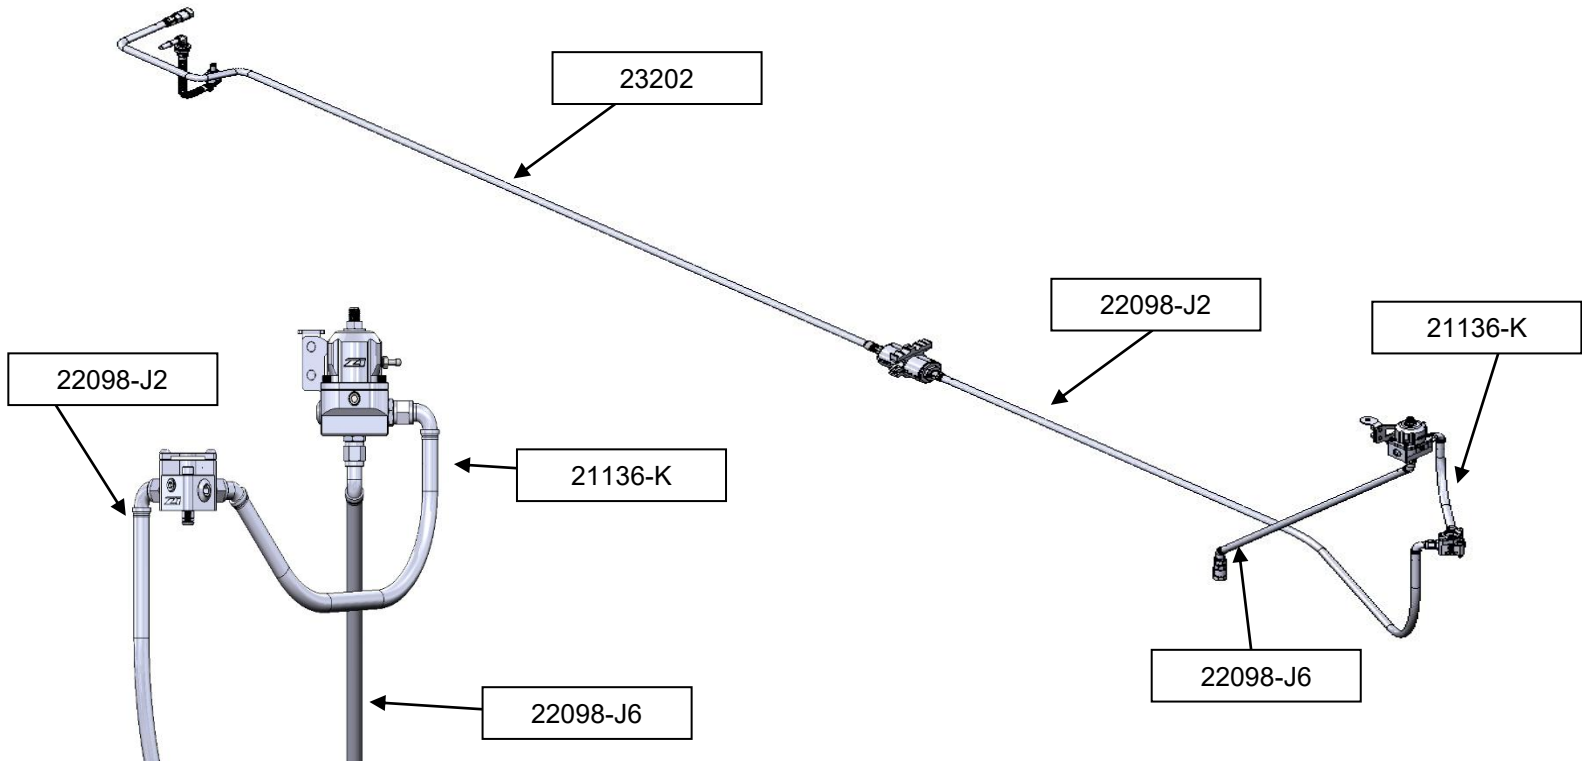

Figure 49
- Locate the Fuel Lines Kit. The kit contains (4) four Fuel Lines. Each Fuel Line will be bagged individually with a part number on the bag, do not separate the line from its bag until you are ready to install it. **These lines have a PTFE core that if kinked, cannot be un-kinked.** Be careful when routing and maneuvering these lines, if you kink one you will need to order a replacement. **DO NOT overtighten the fuel line fittings or use any additional sealant on the lines.**
Refer to *Figure 49* below as a reference on how each Line will be run. The chart details all (7) seven provided Fuel Lines and what each fitting connects to.